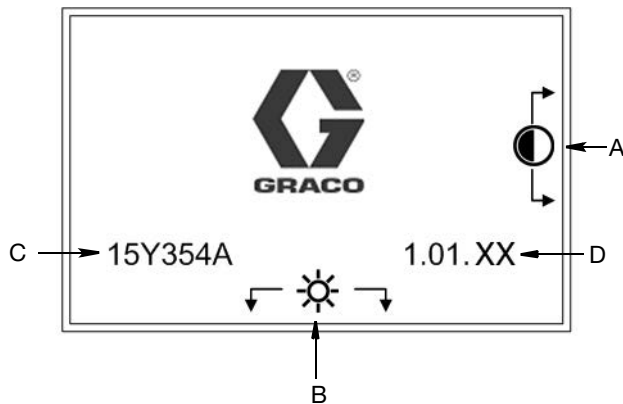

FIG. 20
NOTE: The example of the Software Version (D) shown in FIG. 20 displays “XX” as the last two numerals. On your Controller’s screen, the “XX” will be replaced by the current software version numbers.